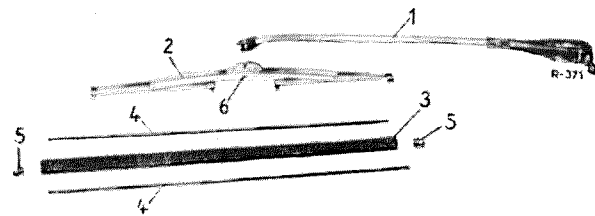

Fig. 82 — 7/2
1. Lift the wiper arm (1) with the wiper blade away from the windshield. Push the lever (6) in the direction indicated by the arrow on the wiper blade (2) and take out the wiper blade or insert it, as required (Fig. 82 — 7/2).